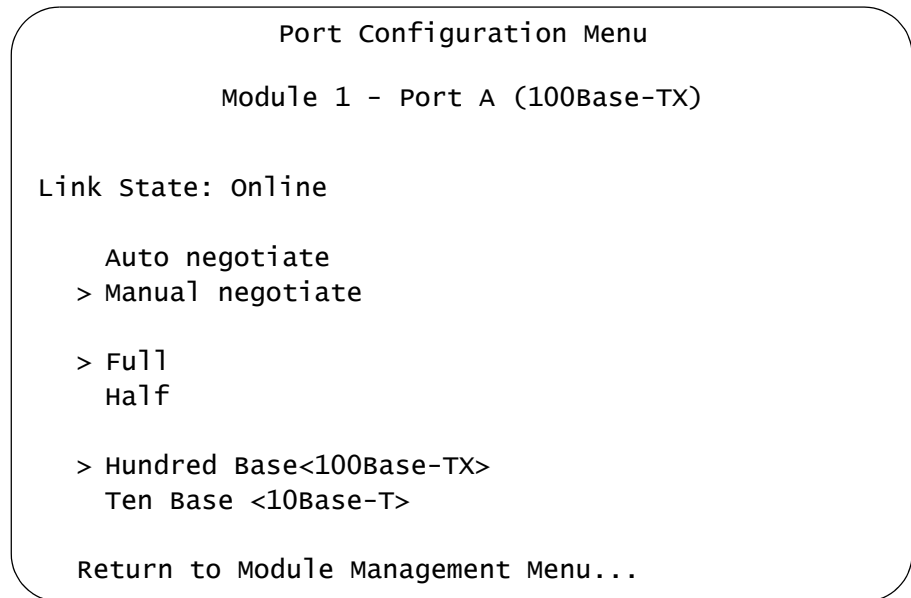

Figure 44. Port Configuration Menu for the 10/100Base-TX Port on the AT-CV5M02 Management Card
4. Configure the settings of the port as needed. To activate Auto-Negotiation, select **Auto negotiate**. To set the speed and duplex mode manually, select **Manual negotiate** to display the additional parameters shown in Figure 44.